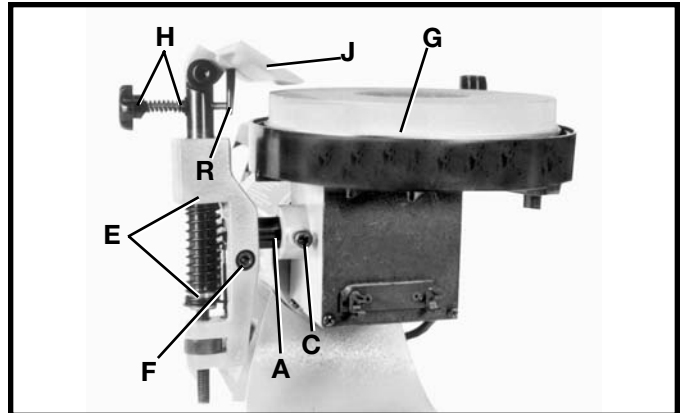

Fig. 13
2. Loosen screw (C) Fig. 13, move tool and chisel holder to desired position and tighten screw (C).
3. Place flat washer, spring and another flat washer onto the tilting screw knob. Thread tilting screw and spring assembly (H) Fig. 13, into hole in post. NOTE: End of screw (H) contacts lever (R) and this screw is used to tilt the tool rest base (J).
4. To level tool and chisel holder base (J) Fig. 13, with the set grinding wheel (G), loosen screw (F) with supplied wrench, and turn complete base assembly (E) until tool and chisel holder base (J) is level with wet grinding wheel (G), and tighten screw (F).